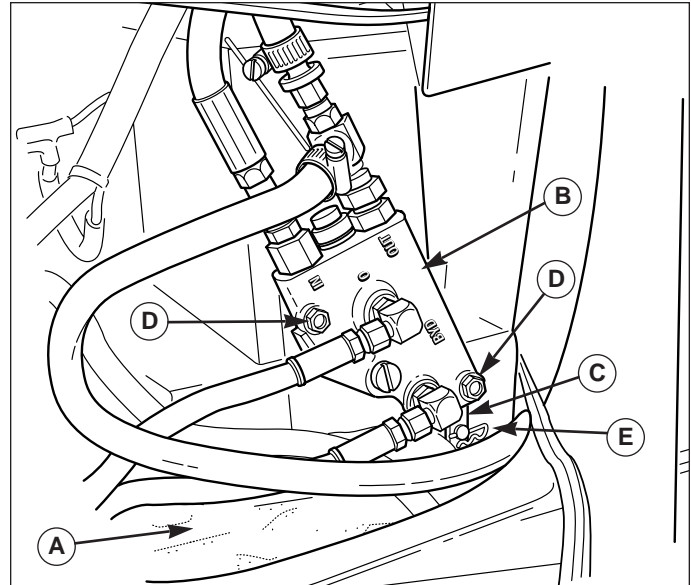

Figure 17. Old Master Valve
2. Remove the foam (A, Figure 17) located below the master valve (B).
3. Note the markings on the body of the master valve (B, Figure 17). **Label the hoses with these same markings** and disconnect the hoses.
4. Remove the hairpin clip (E, Figure 17) securing the actuator arm (C).
5. Remove & retain the two screws (D, Figure 17) securing the master valve (B) and remove the valve assembly.